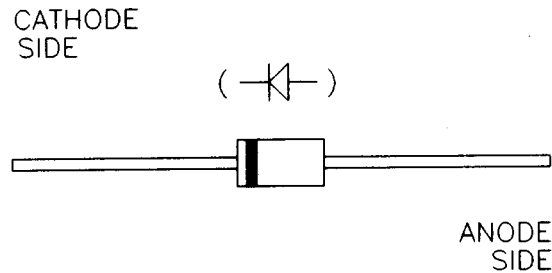

FIGURE 4-17. DIODE IDENTIFICATION
- (3) Remove DCS control box top panel, paragraph 4.7.2.
- (4) Tag and remove diode from circuit. Refer to Schematic FO-1.
- (5) Connect positive lead of multimeter to cathode side and negative lead to anode side of diode (9, Figure 4-16). Refer to Figure 4-17. Multimeter should indicate open loop for diode.